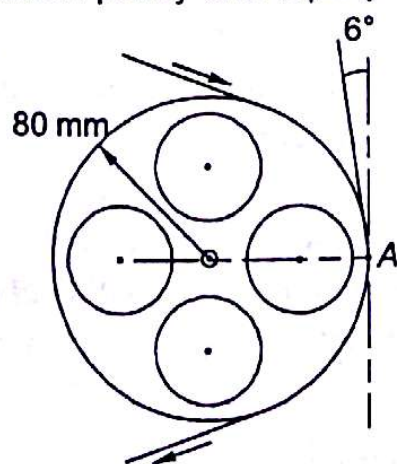

Fig. 11.11
- 11.5 A magnetic tape runs over an idler pulley of radius 80 mm. At the contact point A, at time $t=0$. Velocity is $V = 2.5 \text{ m/s}$. If the total acceleration at the point of contact A is inclined at an angle of 6° to the tangent at time $t=0$, determine the time in which the pulley will be brought to rest at uniform deceleration assuming no slip between pulley and tape (Fig. 11.11).